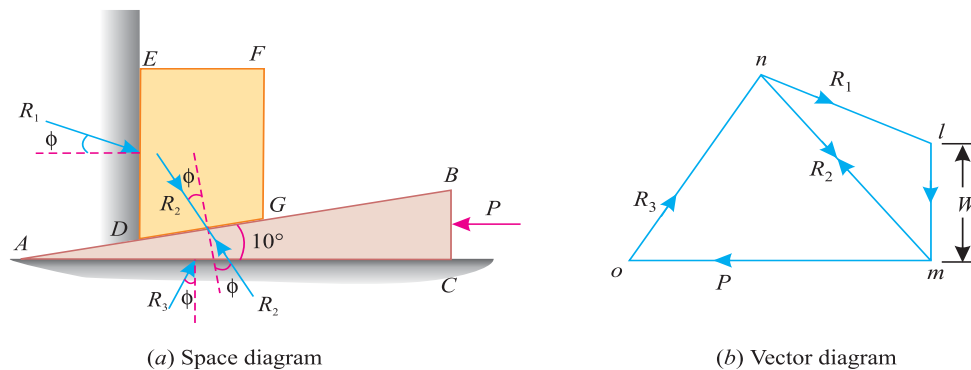

Fig. 9.12.
1. First of all, draw the space diagram for the body *DEFG* and the wedge *ABC* as shown in Fig. 9.12 (a). Now draw the reactions  $R_1$ ,  $R_2$  and  $R_3$  at angle  $\phi$  with normal to the faces *DE*, *AB* and *AC* respectively (such that  $\tan \phi = \mu$ ).
Now, in order to draw the vector diagram for the above mentioned three forces, take some suitable point  $l$  and draw a vertical line  $lm$  parallel to the line of action of the weight ( $W$ ) and cut off  $lm$  equal to the weight of the body to some suitable scale. Through  $l$  draw a line parallel to the reaction  $R_1$ . Similarly, through  $m$  draw a line parallel to the reaction  $R_2$ , meeting the first line at  $n$  as shown in Fig. 9.12 (b).
Now, in order to draw the vector diagram for the above mentioned three forces, through  $m$  draw a horizontal line parallel to the force ( $P$ ) acting on the wedge. Similarly, through  $n$  draw a line parallel to the reaction  $R_3$  meeting the first line at  $O$  as shown in Fig. 9.12 (b).